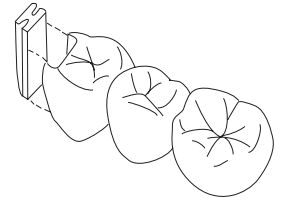

Fig. 28
1. Wax the abutment and pontics being certain to leave an adequate receptacle for soldering the male component (Fig. 28).